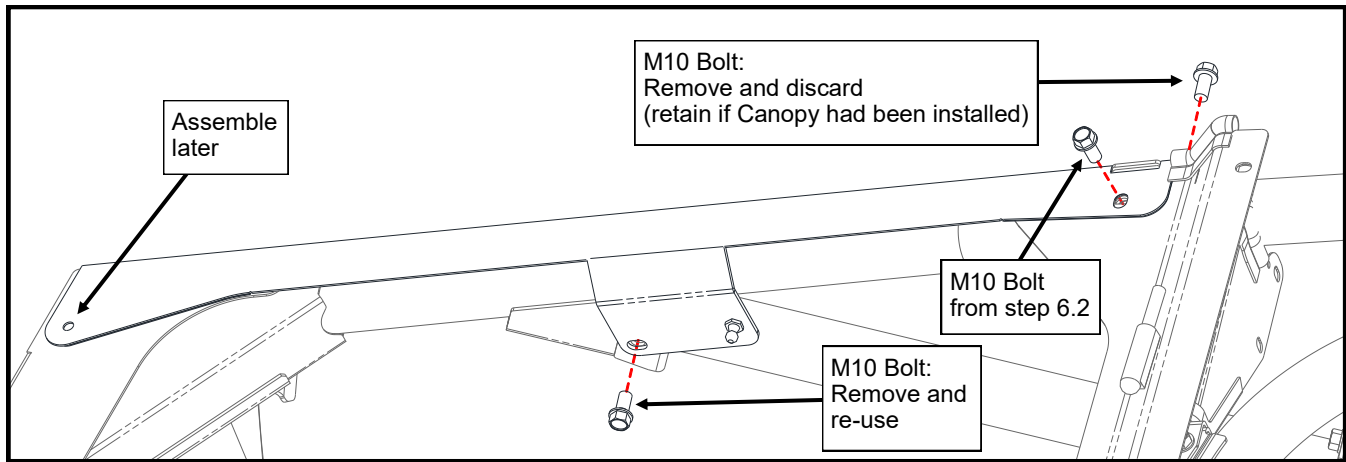

Figure 7.1: Front Side Headers (Driver's side shown)
- 7.1 For each side, one side at a time, remove and retain the M10 bolt at the underside of the front end of the front ROPS cross member. Then, remove the M10 bolt at the top of the ROPS above the B-pillar (see Figure 7.1).